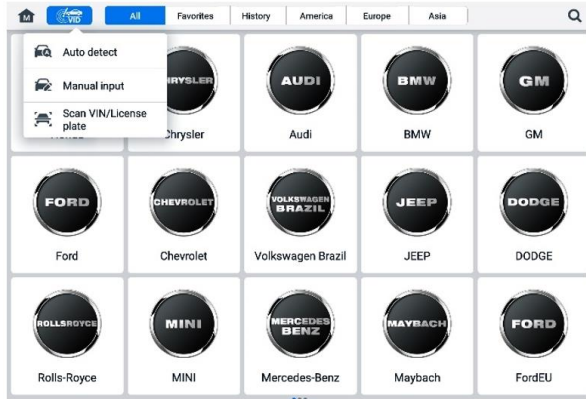

Figure 6-6 VID Button Screen
2. Tap the **VID** button on the top toolbar (see Figure 6-6 VID Button Screen).
Tap **Scan VIN/License** in the dropdown list (see Figure 6-6 VID Button Screen), and the camera will be opened. On the right side of the screen, from top to bottom, three options are available: **Scan Bar Code**, **Scan VIN**, and **Scan License**.